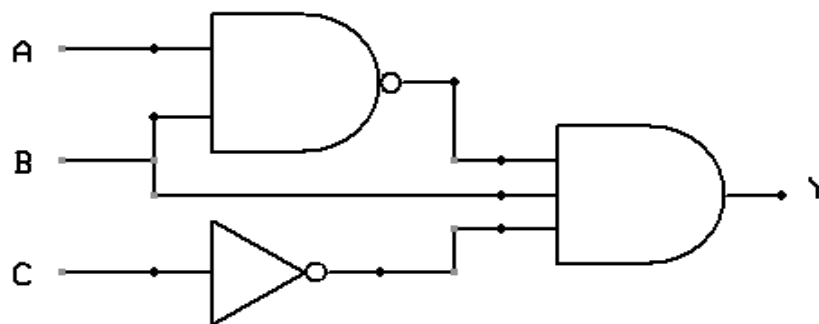

Figure 5: Logic function
- (b) Complete the truth table in **Table 1** below by referring to **Figure 5** for each type of logic function.